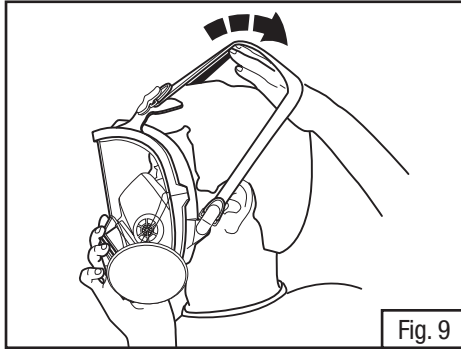

Fig. 9
1. Fully loosen all four head straps. With one hand pull hair back out of facepiece sealing area. Place chin in the respirator chin cup. While holding the facepiece in place, pull the head harness to back of head (Fig. 9).